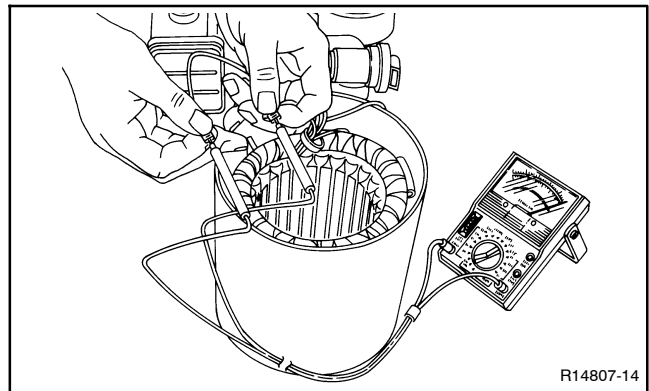

Figure 5-4 Testing Stator Windings
5. To check for stator continuity, set the ohmmeter on R x 1 scale. First set the ohmmeter zero by holding the red and black meter leads together and setting the ohmmeter reading to zero. Then check the stator continuity by connecting the meter leads to the stator leads as shown in Figure 5-4.